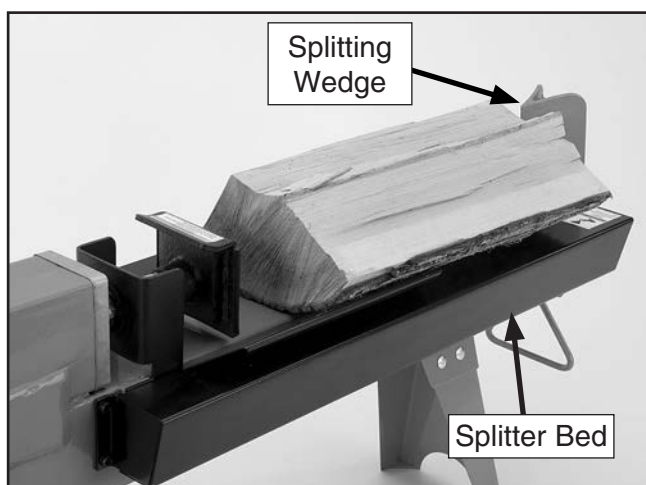

Figure 7. Placing a log on the splitter bed.
2. Place the log squarely on the bed as shown in **Figure 7**. DO NOT try to split a log against the grain by laying it sideways on the bed.